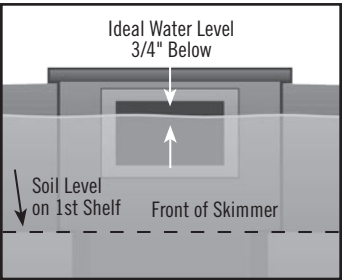

Fig. 10 Cross section of ideal water level viewed from front of skimmer.
- Make sure skimmer is set so the desired water level in the pond is approximately 3/4" below the top of skimmer opening. (See fig. 10)